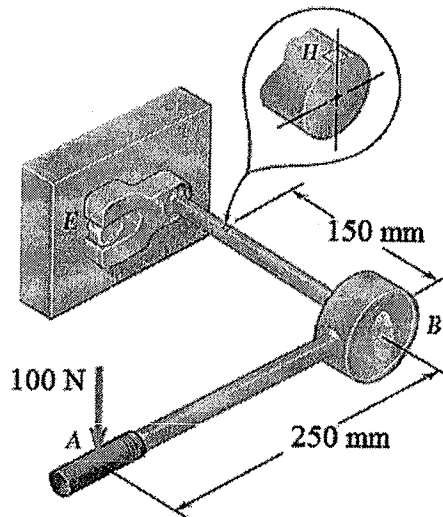

Figure Q6
6. A mechanic uses a crowfoot wrench to loosen a bolt at E as shown in Figure Q6. If the mechanic applies a vertical 100 N force at A , determine the principal stresses and the maximum shearing stress at point H located on top of the 20 mm diameter shaft.